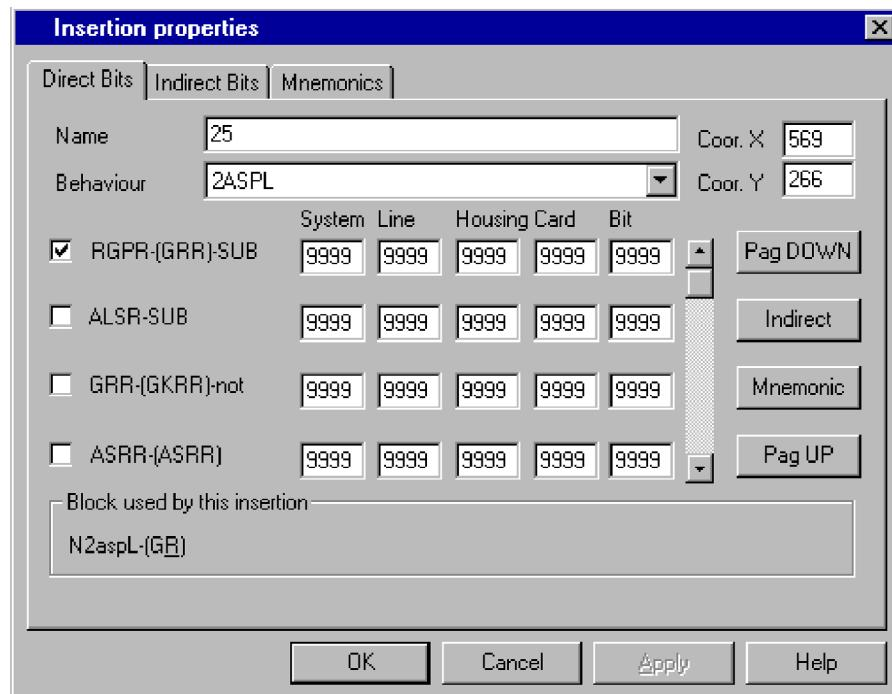

Figure 5.2 PCGE Insertion Properties dialog box: Direct Bits tab
Double-click on an insertion to invoke the Insertion Properties dialog box. PCGE will display the dialog box in the Direct Bits view by default (see figure 5.2, taken from PCGE v1.0). A column of check boxes appears on the left side for selecting bits.
- PCGE **v1.0** check the box beside each bit to be assigned a mnemonic (the first box in figure 5.2 is checked to demonstrate). Checked boxes indicate selected bits.